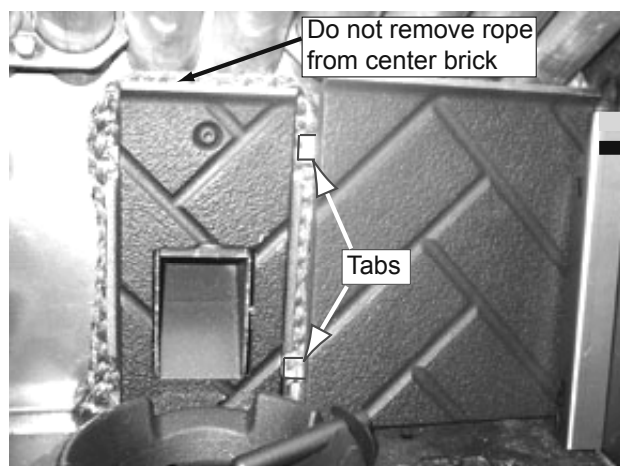

Figure 36.1
1. Place right brick in behind the right bracket and then slide to the left so the tabs are behind the center brick. **Figure 36.1.**